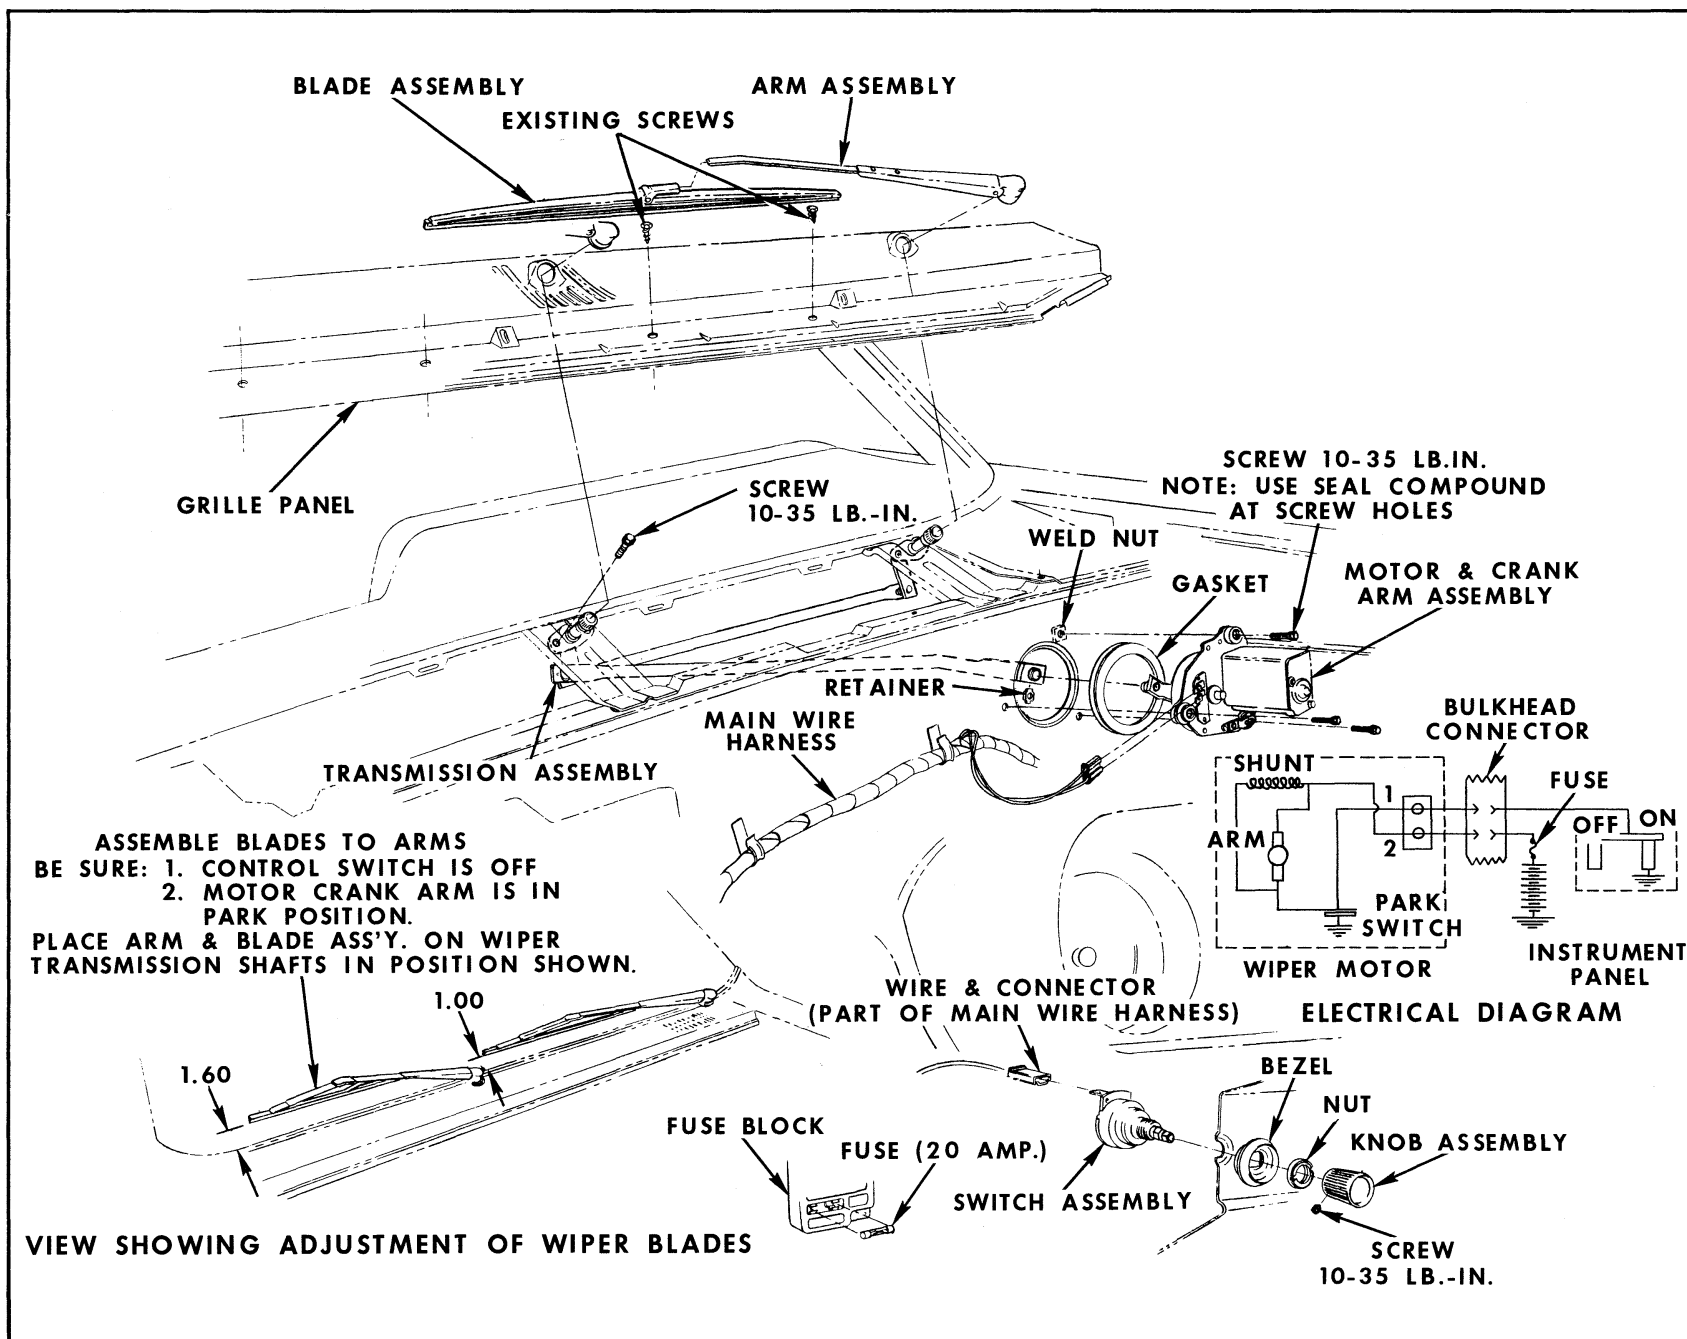

Fig. 11-88 Windshield Wiper (Single Speed) Installation
WIPER TRANSMISSIONS AND LINKAGE—REPLACE (FIG. 11-88)
1. Make sure gasket is on motor (Fig. 11-88).